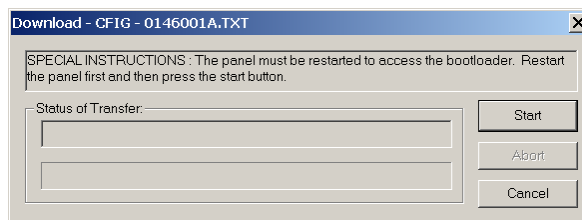

Figure 14-9. Download Dialog for Bootloader Files
5. Press the Warm Start button, located on the CPU Motherboard, and then immediately press the Start button in the Download dialog shown in Figure 14-9. The panel LCD displays messages describing the progress of the download operation.